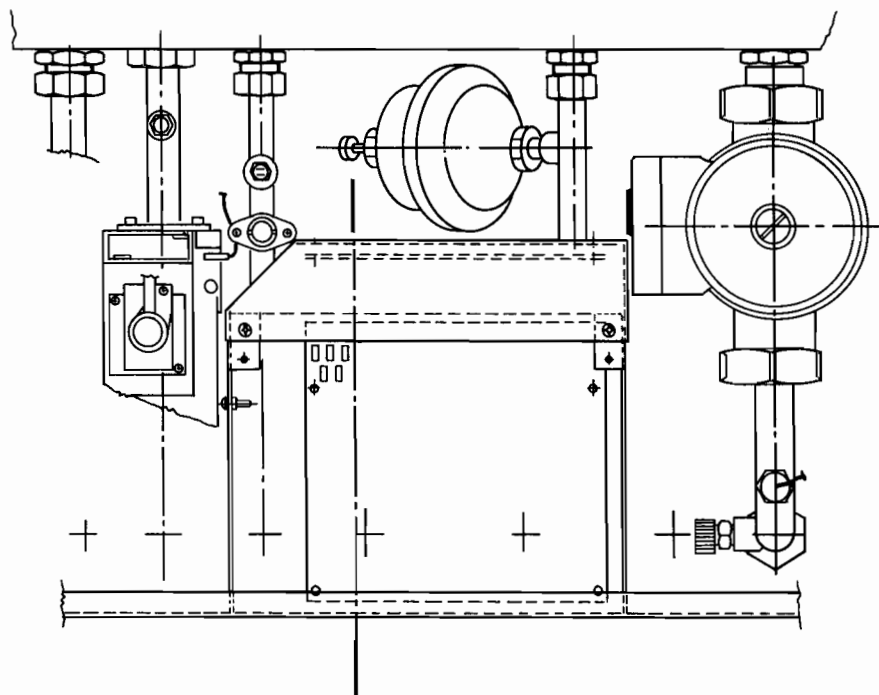

Fig. 39
- b) Unscrew two fixing screws on the P.C.B. top cover plate, lift and disconnect P.C.B. (fig. 39).